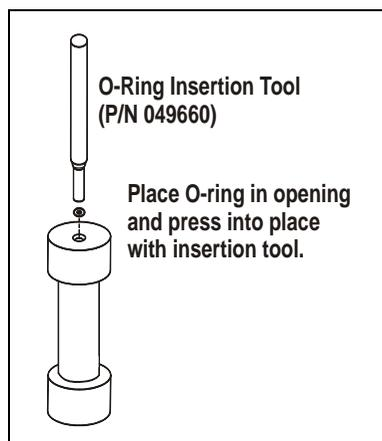

Figure B-12. Installing a Cell End Cap O-Ring
- If an O-ring is missing, place a new one over the opening in the end of the cell end cap. Press the O-ring into place, using the O-ring insertion tool (see Figure B-12).